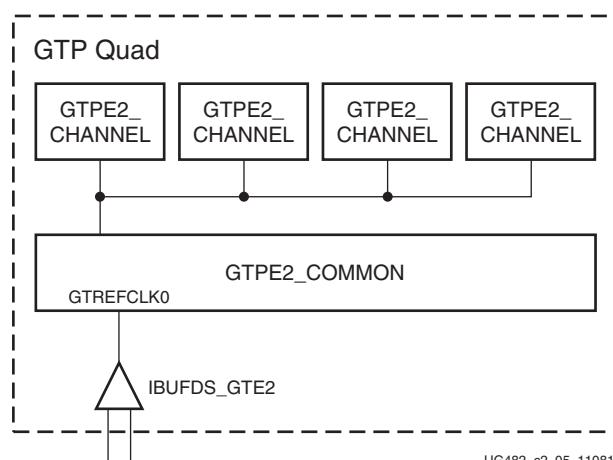

Figure 2-5: Single GTP Quad with a Single Local Reference Clock
In the single external reference clock use model, the user connects the IBUFDs_GTE2 output (O) to the GTREFCLK0 input port of the GTPE2_COMMON primitive. The user design can leave the other unused reference clock ports floating. The IBUFDs_GTE2 input pins can be constrained in the user constraints file (UCF). Figure 2-5 shows a single GTPE2_COMMON primitive connected to a single IBUFDs_GTE2 primitive.